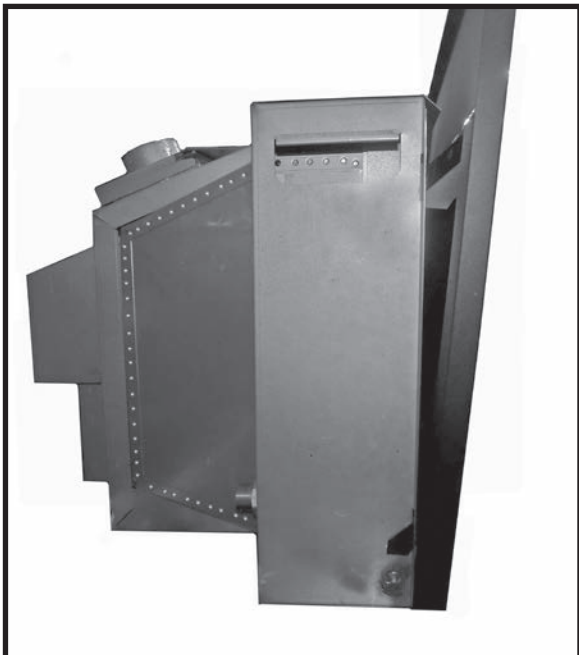

Figure 85: Mounting the baking plate.
2. Place the backing plate onto the fireplace by inserting its four hooks into the four slots on the fireplace frame (Figure 85).